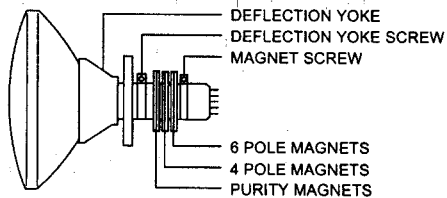

Fig. 4-1
1. Tighten the screw for the magnet. Refer to the adjusted CRT for the position. (Refer to Fig. 4-1)